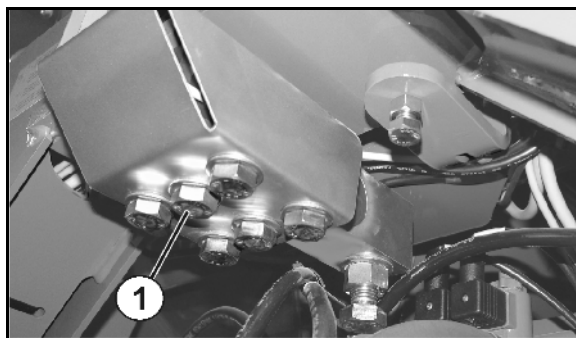

Fig. 53
- 6 screws of the weighing cell (Fig. 53/1)